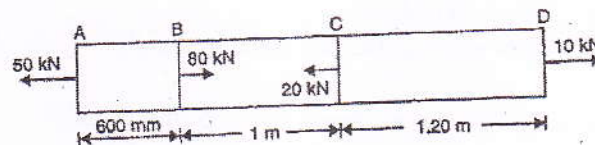

Fig.1.
b) A brass bar having c/s area 1000 mm^2 , subjected to axial forces as shown in fig. 1. Find total elongation of the bar, if $E = 1.05 \times 10^5 \text{ N/mm}^2$